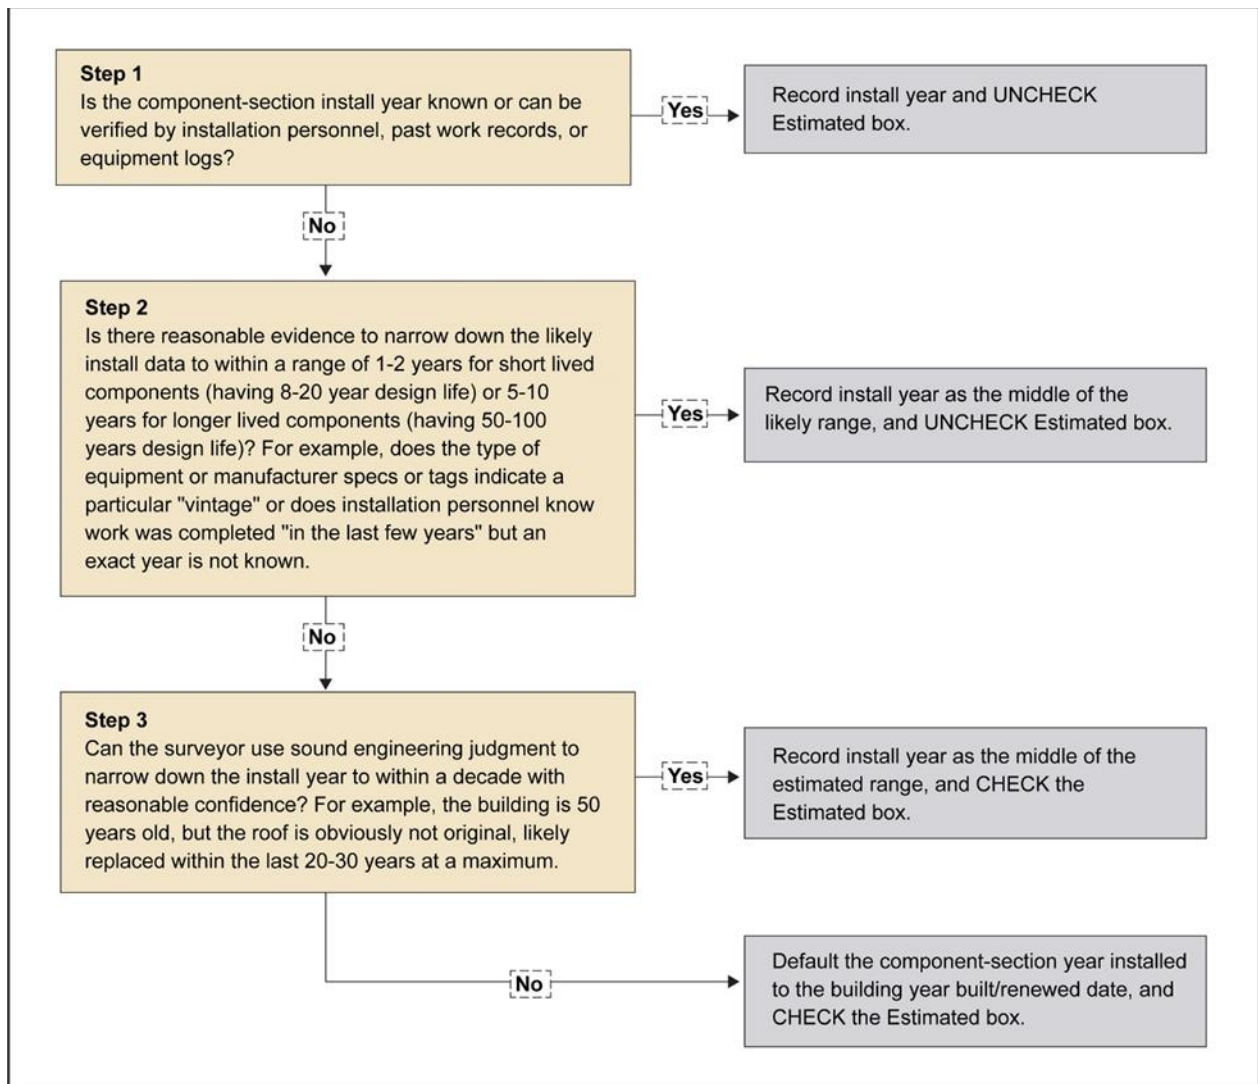

Figure 34: Estimated Date Decision Guide
- Make sure the Estimated Date check box is being used correctly. **Selecting the Estimated Date box should be done with caution.** This is not a benign data point. It often has a significant effect on condition ratings. The date does not have to be exact, and for long-life components, such as piping and wiring, being within 10 years does not require the Estimated box to be checked. When the Estimated box is checked, BUILDER gives more weight to the assessor's inspection DCR. When it is not checked, more weight is given to the Year Installed date, and the component SCI will be much lower in most cases. If a component is judged to be original to the building, the Estimated Date should not be checked, even in very old buildings. Components such as foundations, superstructure, piping, and wiring are usually original, even in very old buildings, unless an addition of major renovation has occurred. See the guide below (Figure 34: Estimated Date Decision Guide) on selecting the Estimated Date check box.